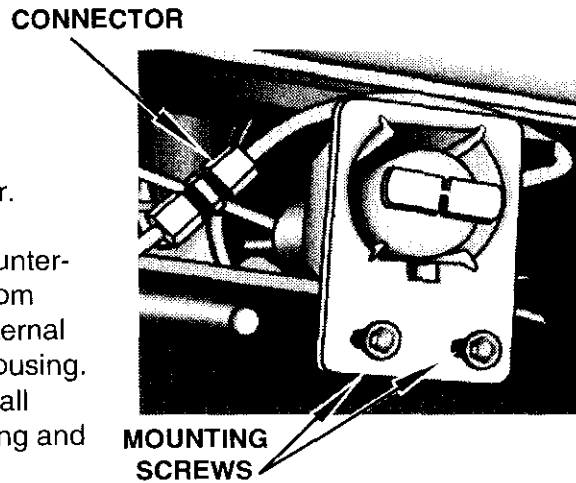
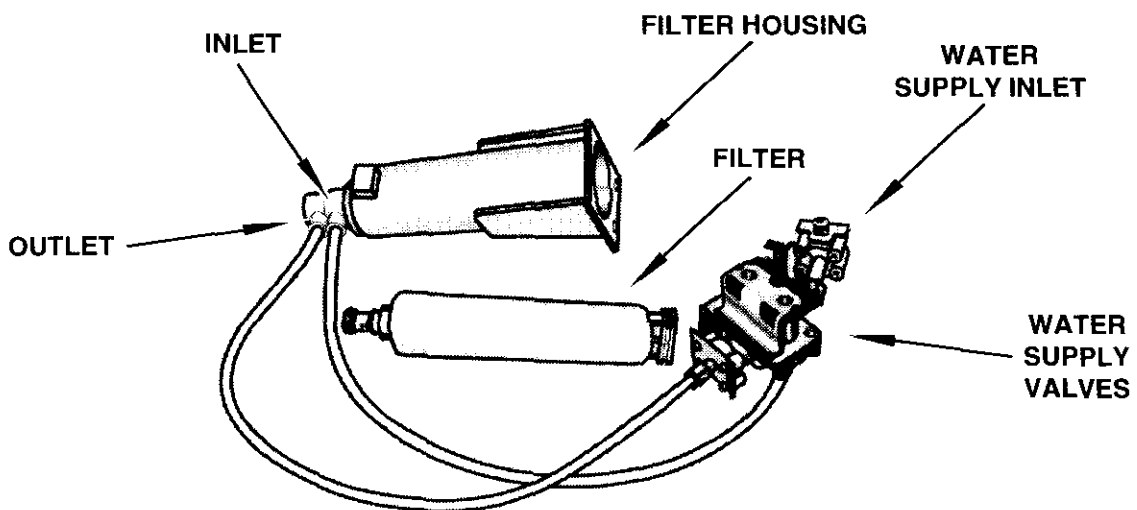

Fig. 7
Fig. 8
The filter housing is located behind the toe panel, and is mounted to the bottom frame rail with two (2) Hex-head screws. (Fig. 7)
3. Remove the two (2) Hex-head screws securing the filter housing to the bottom frame rail.
5. Disconnect the water line connectors. (Fig. 8)
NOTE: When reconnecting the water lines be sure to connect the water supply line to to the filter inlet and the water outlet line to the outlet of the filter housing. (Fig. 8)